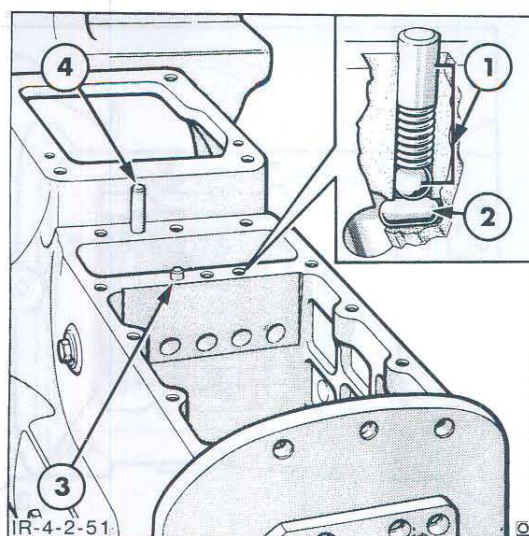

Figure 51
3. Remove the detents, springs and balls from the bores in the top of the transmission case, Figure 51. If the balls will not lift out with a magnet, the balls may be removed after the shift rails have been removed from the transmission case.
10. If necessary remove the interlock detent plug from the left-hand side of the transmission case and extract the interlock detent, Figure 51, which is positioned between the 1st/2nd and 3rd/4th gearshift rails.